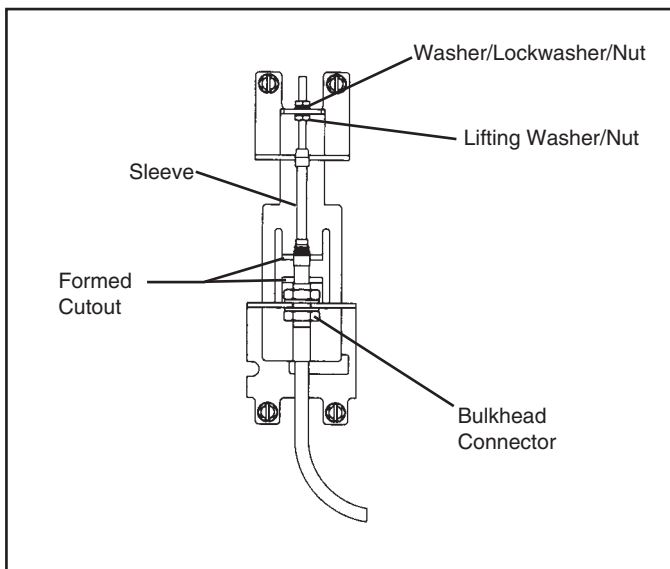

Fig. 1-3 K-Frame Actuator Mechanism.
The Flex Shaft handle mechanism provides a means of externally operating the circuit breaker and can be applied to enclosures of varying heights and depths. The handle can be used with NEMA 1, 3R, and 12 enclosure applications, depending on the accessory components selected. An operating handle, flexible shaft, and mechanism are required for standard application. Eight lengths of shafts are available for use with the wide range of depths of various enclosures (3' through 10'). When selecting the length of the Flexible Shaft, ensure Minimum Bending Radius of 4 inches is maintained to operate properly. The standard method of shipment includes the mechanism preset at the factory. If minor field adjustments are required see Figure 1-3. For this publication, the term circuit breaker shall also include the molded case switch and Series C motor circuit protector (HMCP).
In the event a customer must disassemble the preassembled Flex Shaft handle mechanism, the following procedure must be followed before continuing with the installation instructions. (See Fig. 1-3).
8. Check operation of mechanism for ON, OFF, and reset. Check the reset position of the actuator mechanism, that the lifting nut and sleeve of shaft do not come in contact with each other (see Fig. 1-3). If they do, move bulkhead connectors accordingly. If mechanism functions incorrectly, repeat procedure or go to Adjustment Checklist.
Loosen the lifting washer/nut while tightening the washer/lockwasher/nut, two or three turns should be sufficient (see Fig. 1-3).
**Check the reset position of the actuator mechanism, that the lifting nut and sleeve of shaft do not come into contact with each other (Fig. 1-3). If they do, move bulkhead connectors accordingly.**
For a K-Flexible Shaft Assembly, loosen the washer/lockwasher/nut on the end of the shaft while tightening the lifting washer/nut until breaker turns ON with positive action. Tighten both nuts and recheck for ON, OFF, and Reset positions (Fig. 1-3).
**Be certain after adjustment to have a minimum of 1 thread past the washer/lockwasher/nut assembly (Fig. 1-3).**